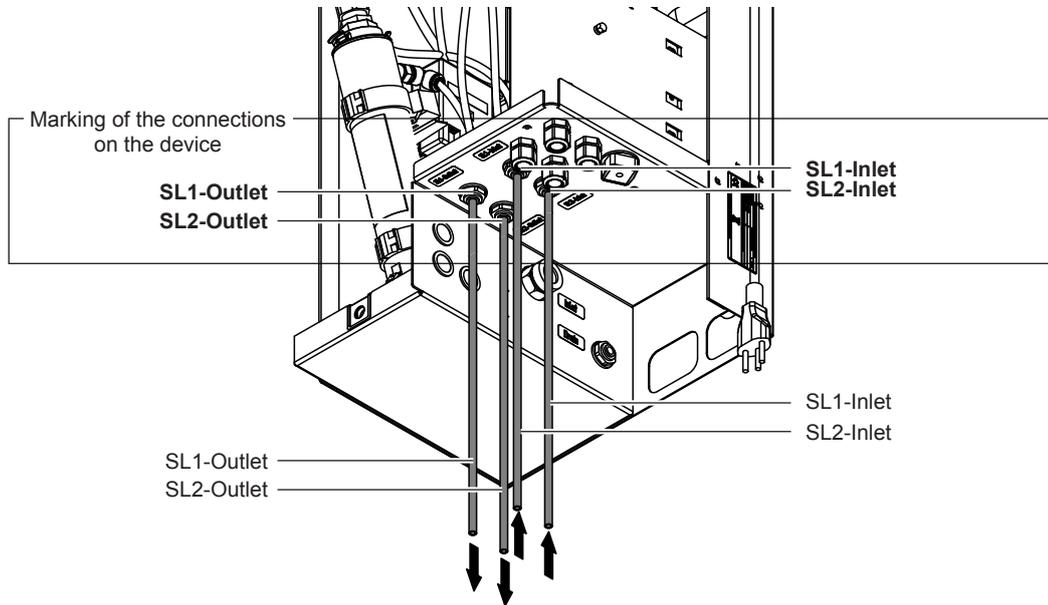

Fig. 40: Connection of the spray loop hoses
1. Connect the spray loop hoses from spray loop 1 and, if present, spray loop 2 to the central unit according to Fig. 40.
Important: If the spray loop hoses are not marked or are marked insufficiently, label them according to Fig. 40.
6. Reconnect the inlet hoses to the central unit (see Fig. 40).